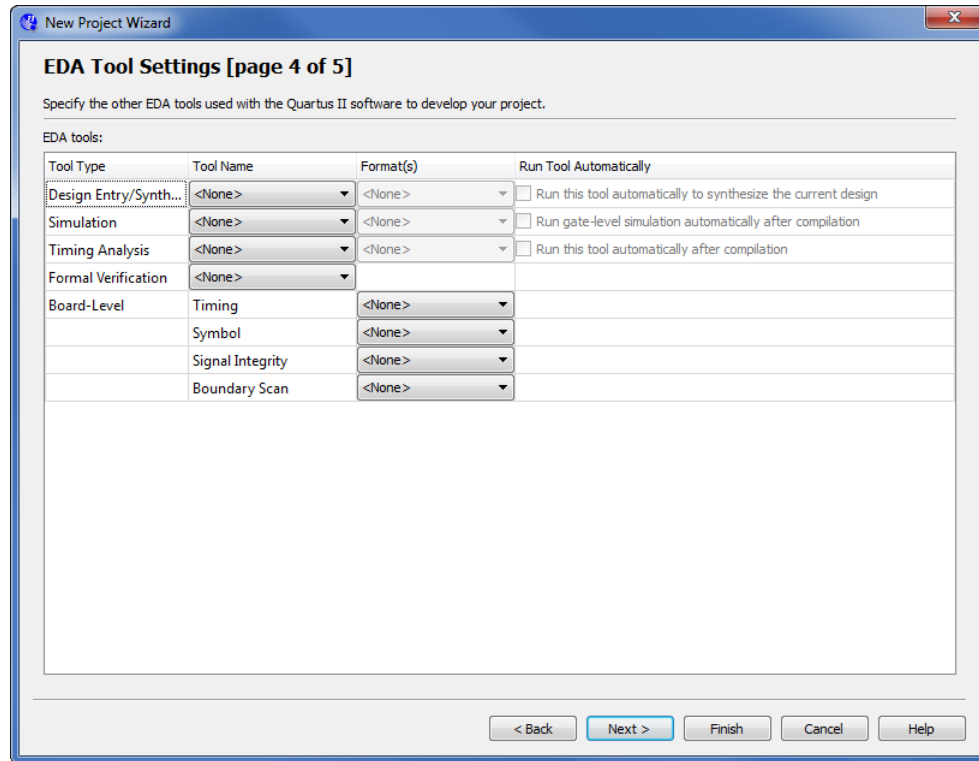

Figure 8: Other EDA tools can be specified.
- In this window, we can specify the type of device in which the designed circuit will be implemented. Choose the Stratix III[®] menu item as the target device family. We can let the Quartus[®] II software select a specific device in the family, or we can choose the device explicitly. We will take the latter approach. From the list of available devices, choose the device called EP3SE50F484C2. Press Next, which opens the window in Figure 8.